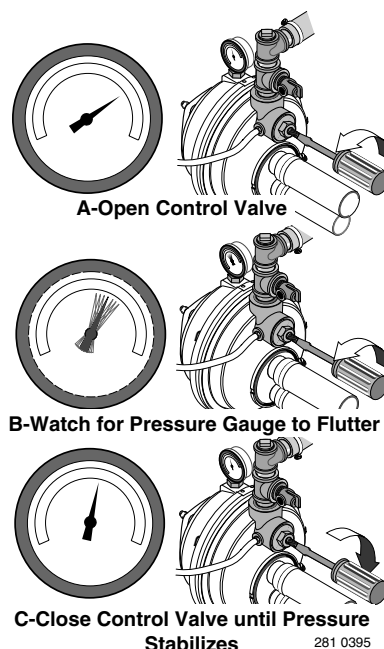

Figure 17: Set Control Valve
5. When pressure has built up and stabilized at about 50 PSI, slowly open the control valve (see Figure 17) and let the pressure drop until the pressure gauge needle starts to flutter. When the needle flutters, close the valve just enough to stop the flutter (see Figure 17). Your pump is now operating at its most efficient point.